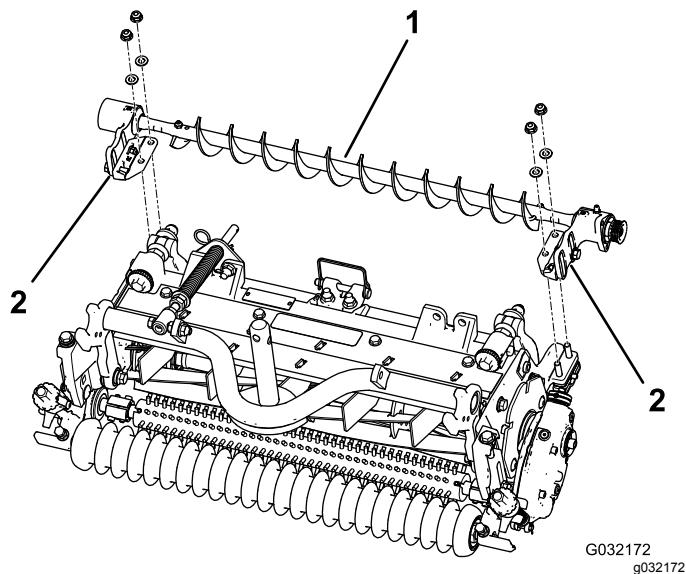

Figure 4
5. Position the left or right roller-brush-assembly mounting brackets onto the roller-bracket bolts (Figure 4).